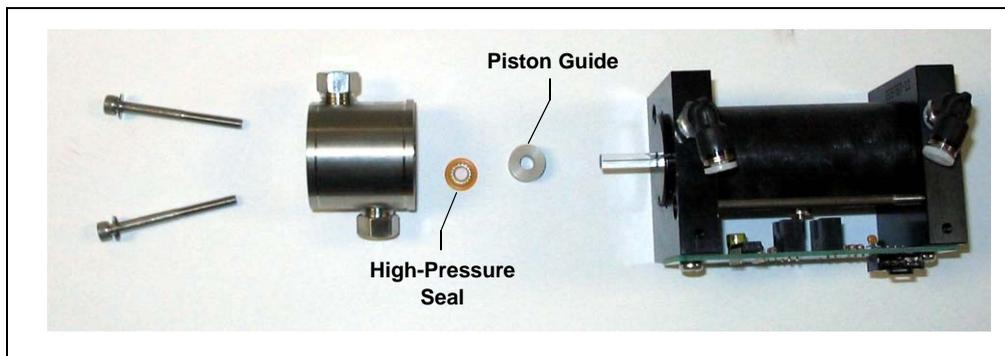

Figure 5-10. Replacing the Dionex ASE 350 Piston High-Pressure Seal
3. Turn the pump head over so that the open end is facing down. The tan piston guide (see Figure 5-10) should drop out of the head; if it does not, gently tap the head on the workbench to dislodge the guide. Save the piston guide (it will be reinstalled in Step 7).